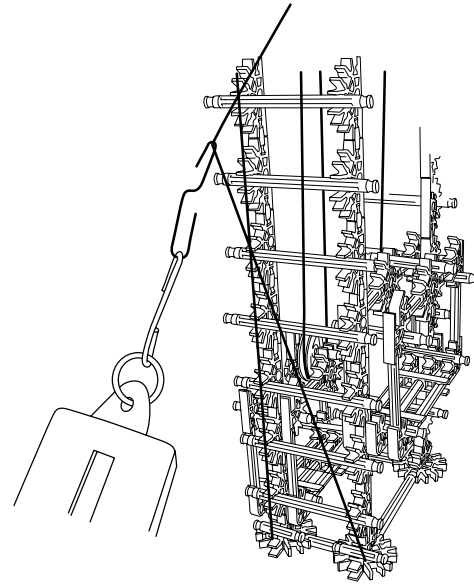

Fig. 3
6. Hook the spring scale to the paper clip that you attached to the pulley rope of Car A. Pull the spring scale toward yourself, raising Car A to the same height as you lifted it in Step 5. (See Fig. 3) You will need to take 2 measurements: